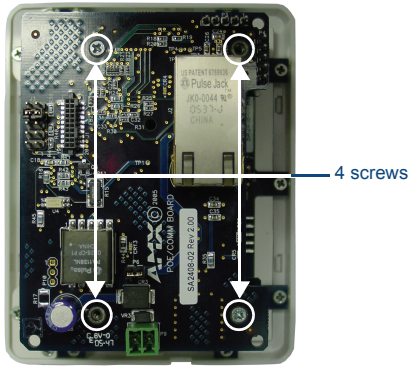

FIG. 3 Rear View of Mio Modero DMS
3. Unscrew the 4 points illustrated in FIG. 3.